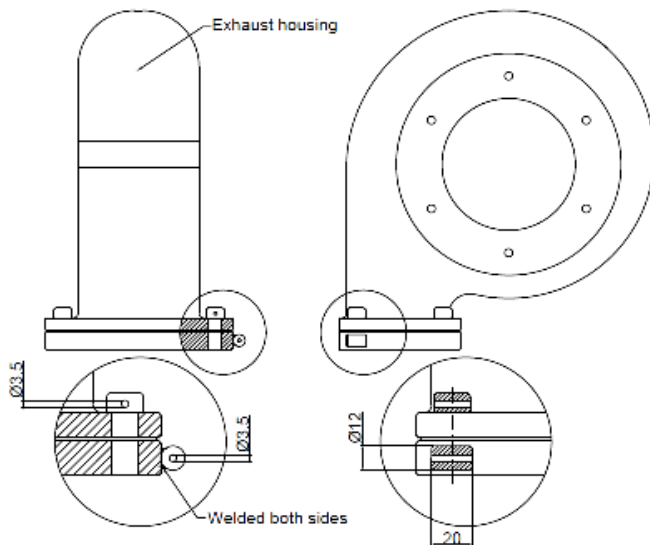

Figure 10 Turbo sealing
- a. Maximum one (1) nozzle for each turbo, only H2O no additives.
4. Super Sport trucks are limited to one (1) pressure stage with max. two (2) turbo chargers.
- a. Charging with one (1) turbo: The maximum diameter of the inlet wheel is 127 mm (5 inch). Inlet housing **129,3 mm**. The maximum diameter of the exhaust wheel of the turbocharger is 132,1 mm (5,2 inch). The max. diameter of the outlet side of the turbo housing is **134,4 mm**.
- b. Charging with two (2) turbo's in one (1) pressure stage: Max measurement of a Holset HX 82 or turbine wheel equal to this. Max diameter of exhaust wheel is 112 mm, max bottom diameter of exhaust wheel is 129 mm. Max diameter of exhaust housing outlet is 114 mm.
- d. There must be a possibility (according Figure 10) to seal the turbo by a National official.